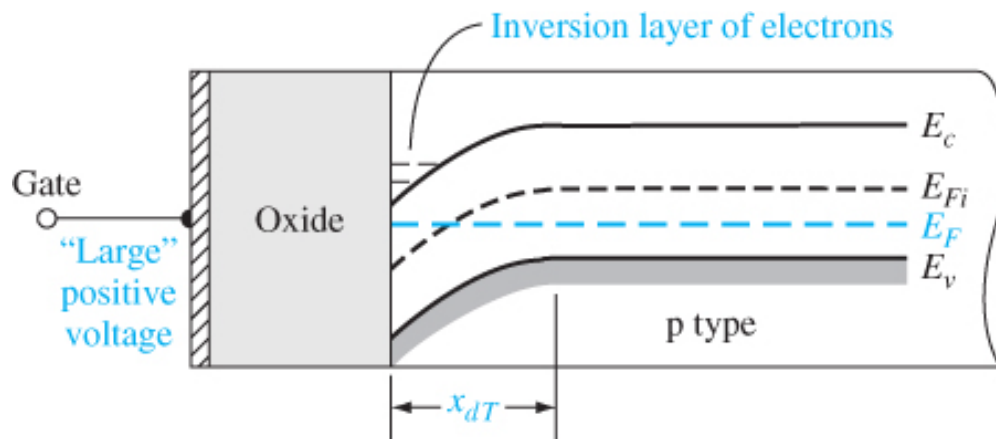

Figure 10.5 | The energy-band diagram of the MOS capacitor with a p-type substrate for a “large” positive gate bias.
- When a ‘large’ positive voltage applied at the gate (Fig. 10.5), there is a maximally thick depletion layer adjacent to the oxide/substrate boundary.